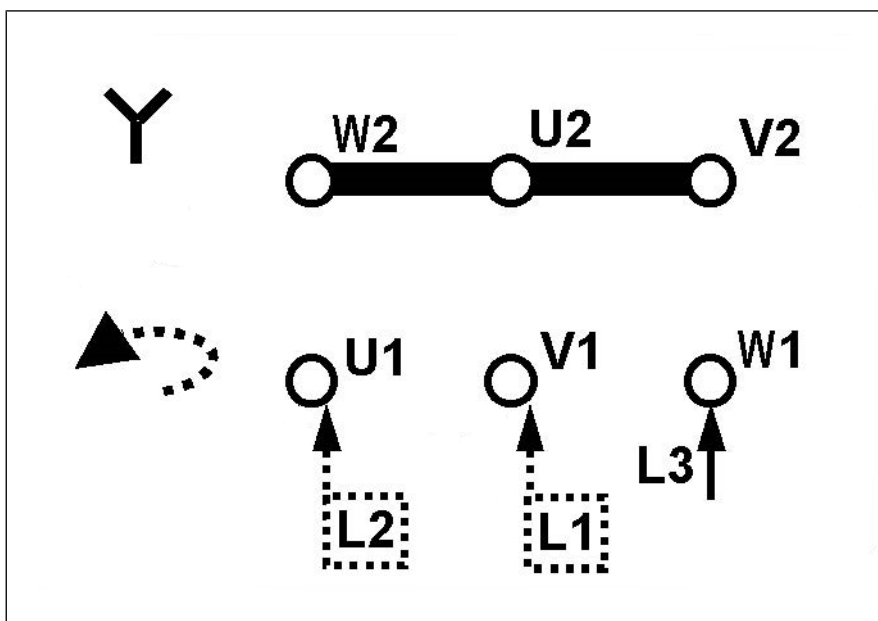
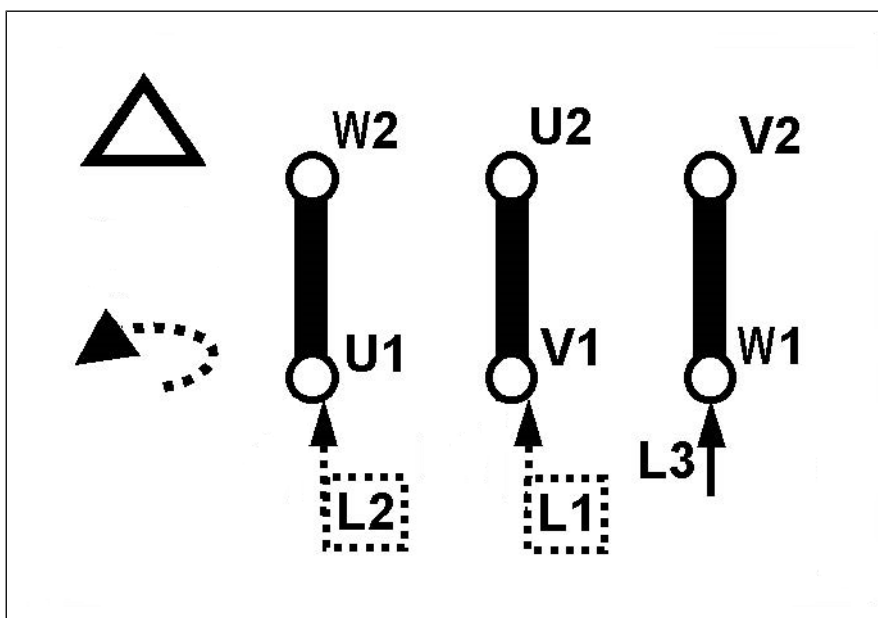
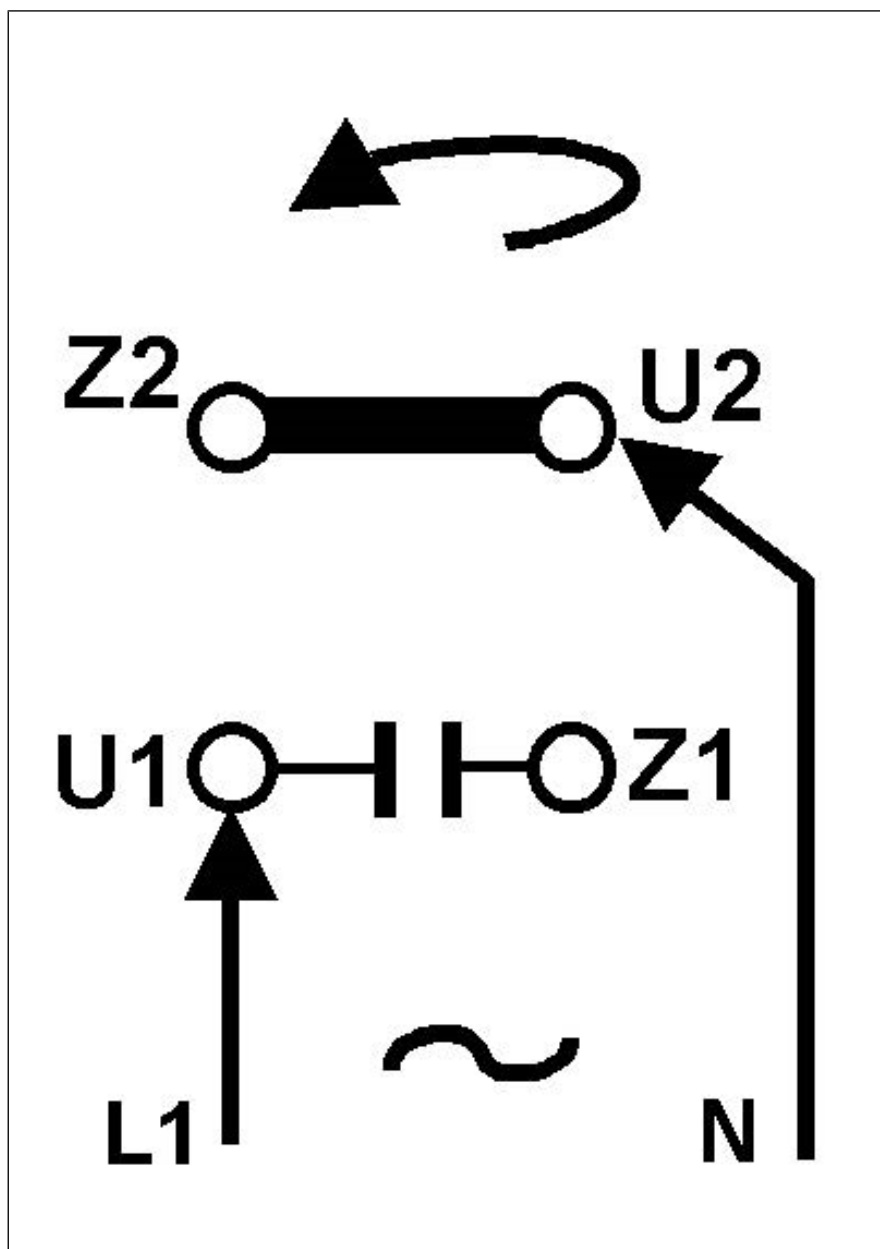

Fig.7 Star connection (three-phase motor; high voltage)
Fig.8 Δ -connection (three-phase motor; low voltage)
Fig.9 Electrical connection (capacitor motor)
5. Connect the electrical power cables in accordance with Fig. 7 and Fig. 8 (three-phase motor) or Fig. 9 (capacitor motor) (cf. motor operating instructions).